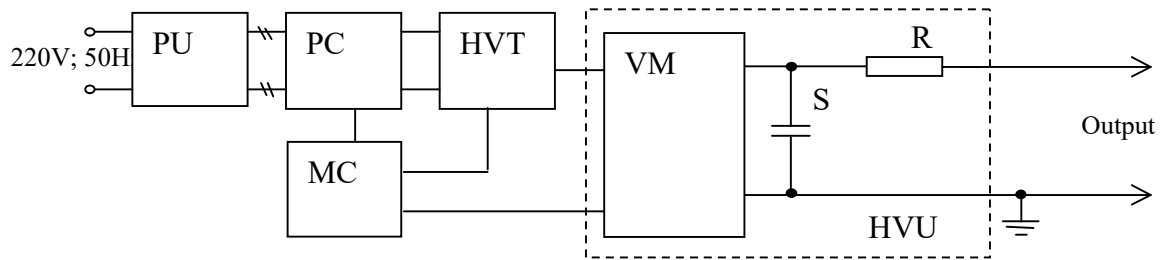

Fig. 1 The functional chart of the test generator IGE 25.1a
4.1 The functional chart of the test generator IGE 25.1a is shown in Figure 1.